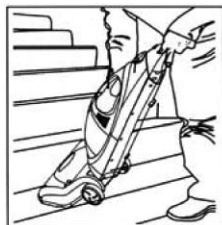

Fig. 7
1. Ensure that the power unit/hand vac is in position on the power unit housing. (Fig.7)